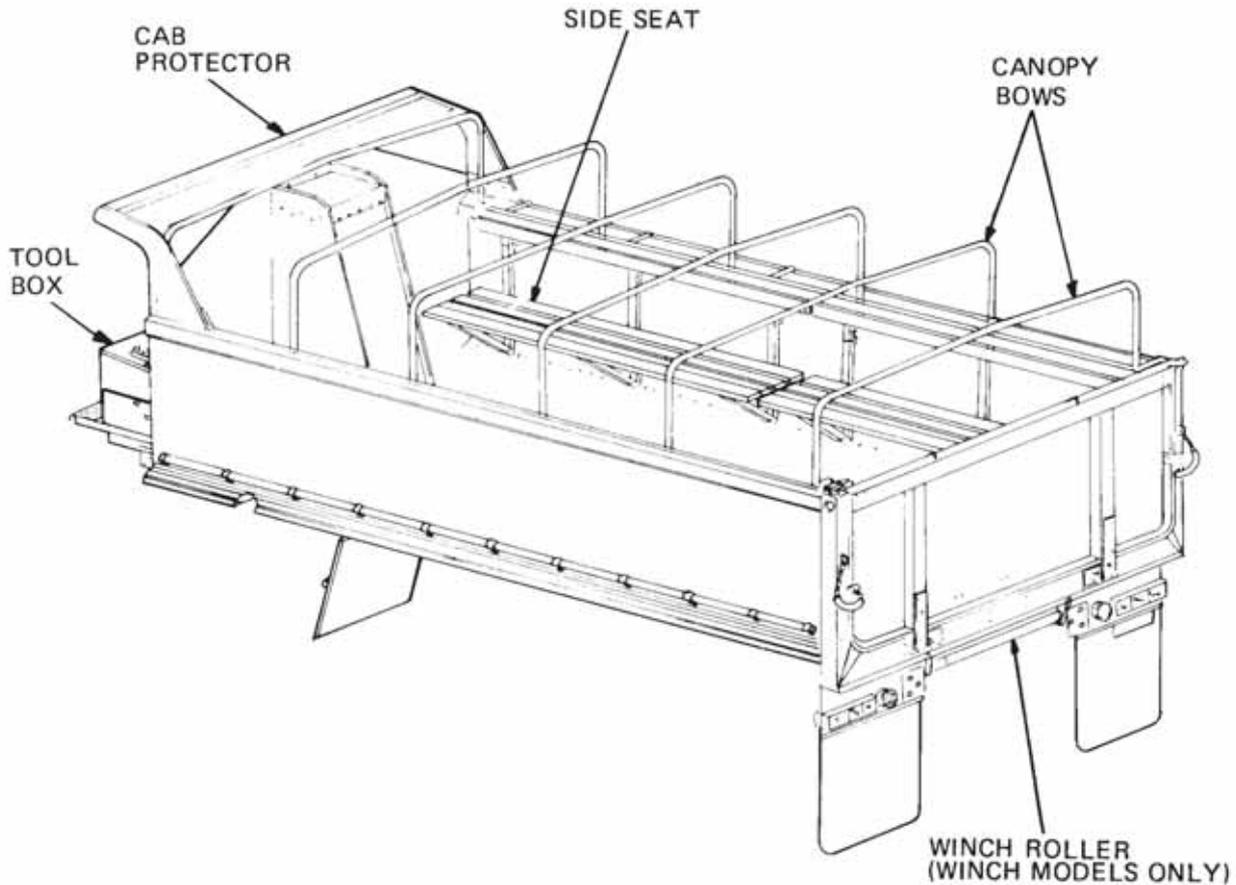

Figure 2 Dump Winch Body Assembly
- (1) Figure 2 illustrates the dump body of a winch model dump truck with side seats fitted for troop transportation. Canopy bows are installed to support a canvas canopy. The cab protector is secured to the front of the dump body by bolts.
- (2) Removal of the dump body from the chassis is facilitated by the use of eye-bolts. Two eye-bolts are permanently installed in the floor of the dump body, one either side of the hoistwell at the front of the body, while two holes are situated near the tailgate for a further two eye-bolts. These holes are generally filled by blanking plugs and the eye-bolts are stowed externally on each side of the dump body. The rear eye-bolts are also used as the rear lift points for lifting the entire unladen truck.